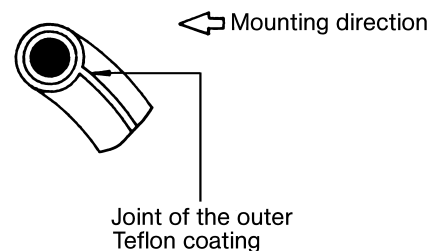

Figure 5: Joint of the outer coating points against the mounting direction.
**Note:** See to it that the parts sliding on each other are only exchanged in pairs. When using double PTFE-coated O-rings, see to it that the joint of the outer coating points against the mounting direction as otherwise, opening and/or withdrawal of the coating may be effected (please refer to Figure 5 below).